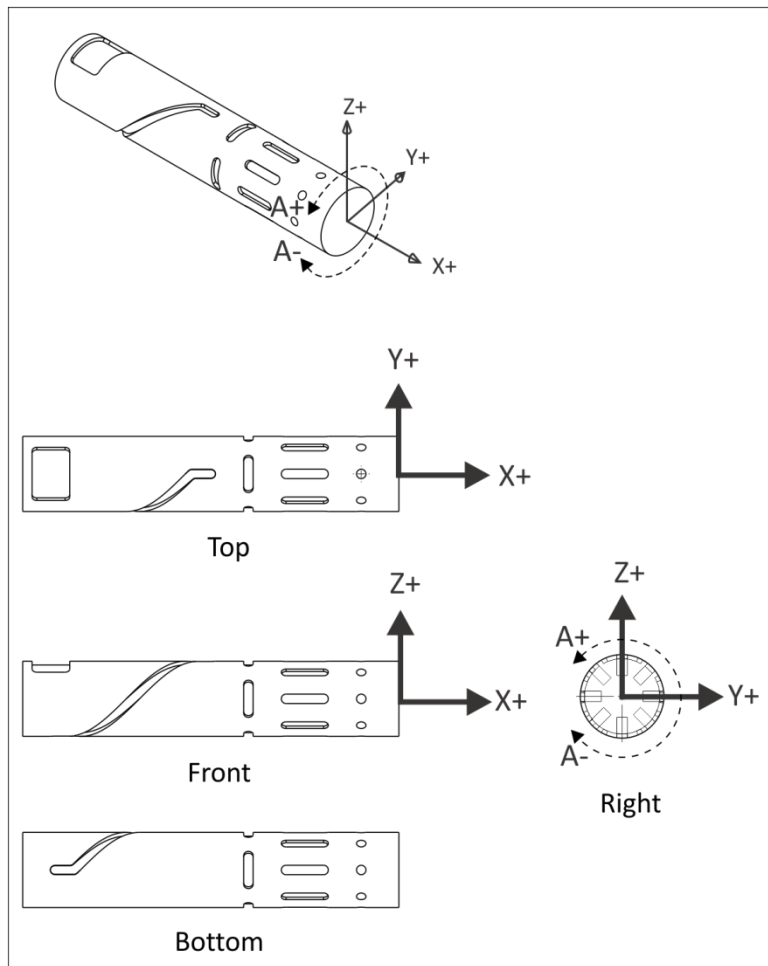

Figure 4: 4th Axis Substitution (X-A)
Axis substitution paths are illustrated in Figure 4. The most common setup is with the rotary axis mounted parallel to the CNC X-axis. With axis substitution machining, the tool axis centerline always points towards the centerline of the rotational axis (no Y-motion) when milling. The tool feeds to depth (Z) and then only up to two axes can move at once (X-A) to make the feature.